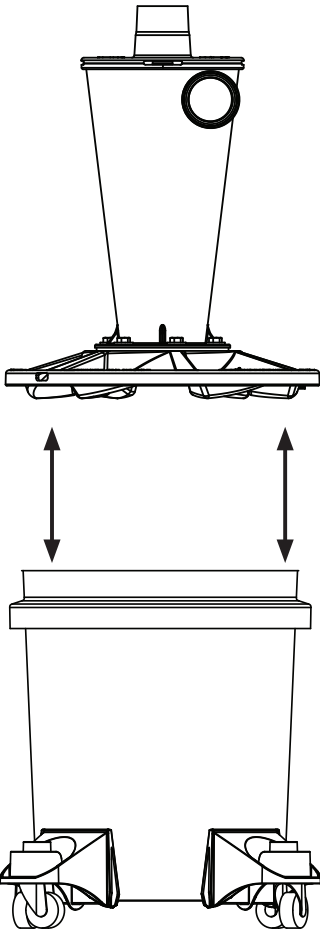

FIG. 7a
- 7 Snap the Cyclone (A) and Lid assembly onto the Bucket (F) and ensure it's fully seated [FIG. 7a]. The lid will make an audible click as it seals close.